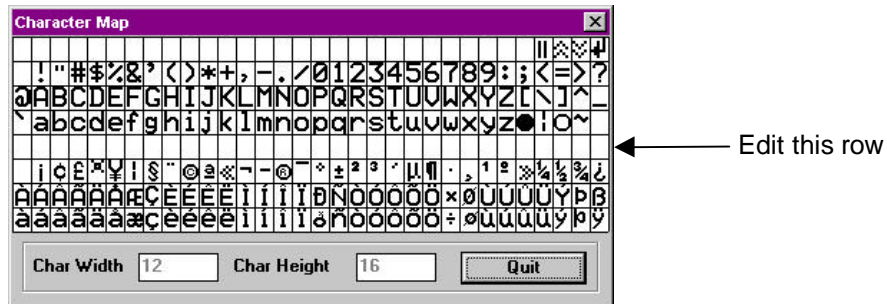

Figure 5.2 – Character Map
2. Press <Ctrl> <Enter> or by clicking right mouse button. Click on the character in the Character Map (see Figure 5.2) to be inserted.
3. Click on **Map** to show the total character set. The screen in Figure 5.2 appears. The first four rows are the standard keyboard characters, which should not be edited. The fifth row is editable and useable. The lower three rows are the extended keyboard characters, which should not be edited. Click on the character to be edited or blank box to create a character.